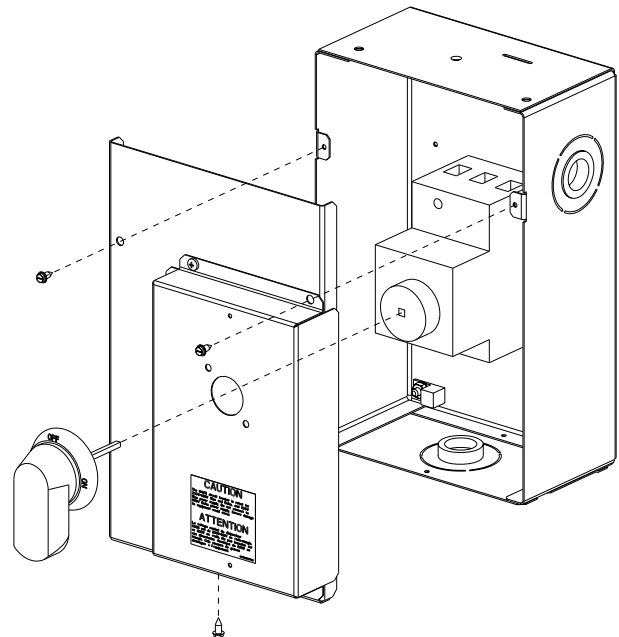

Fig. 34 — Handle and Shaft Assembly for HACR Circuit Breaker
2. Remove (3) hex screws on the HACR circuit breaker enclosure - (2) on the face of the cover and (1) on bottom (see Fig. 34).
9. Secure the handle to the painted cover with (2) screws and lock washers supplied.
10. Engaging the shaft into the handle socket, re-install (3) hex screws on the HACR circuit breaker enclosure.